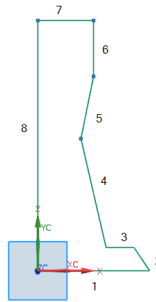

Figure 3-36 The sequence for drawing the profile
2. Follow the sequence given in Figure 3-36 for drawing the sketch. Draw the rest of the entities of the sketch. For better understanding, the sketch has been numbered and temporary dimensions have been hidden.